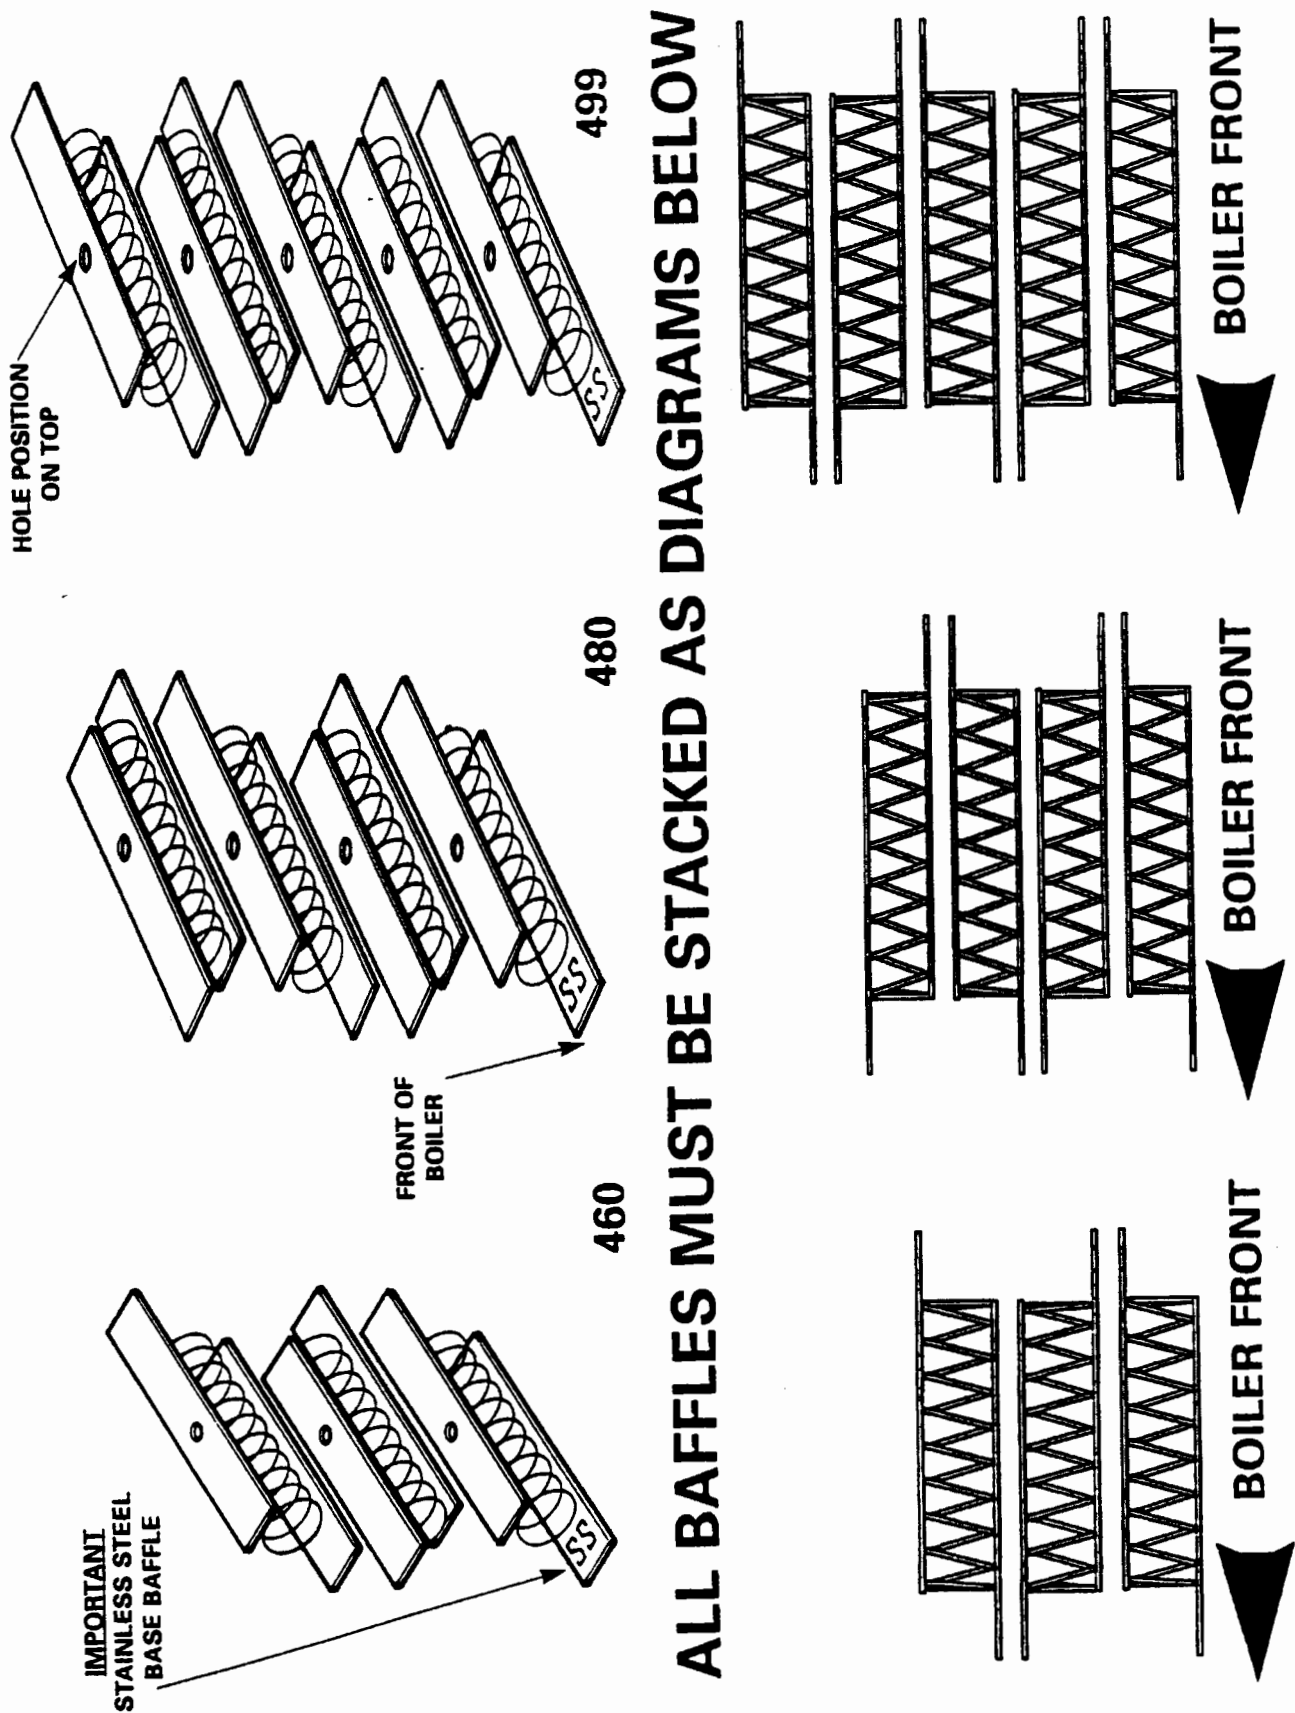

FIG. 7A
6. Check the position of the boiler flueway baffles. (Fig. 7A)